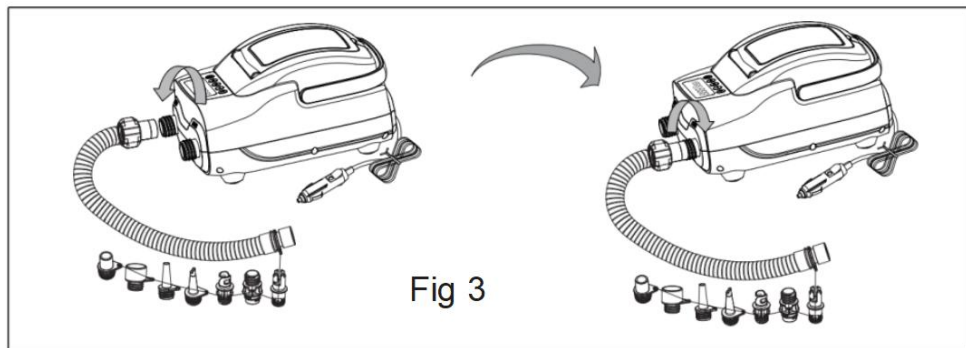

Fig 3
- * Remove the hose from the inflation inlet; connect the end with flexible conduit adaptor of the hose with the air pump deflation outlet and twist clockwise to tighten it (Fig 3) and the other end shall still be to the airbag.